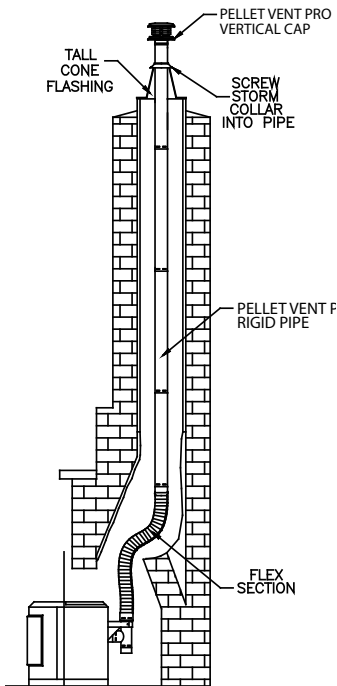
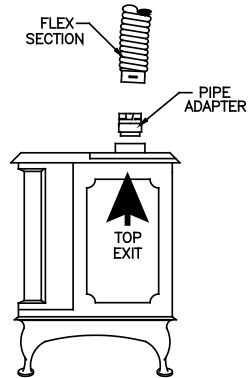

Figure 20
Figure 21
8. In making the connection at the appliance, configurations other than the one shown in **(Figure 20)** may be made. It may be necessary to contact the manufacturer of the unit to determine exactly what may or may not be done to make the correct connection. Some typical arrangements are shown in **(Figures 21**